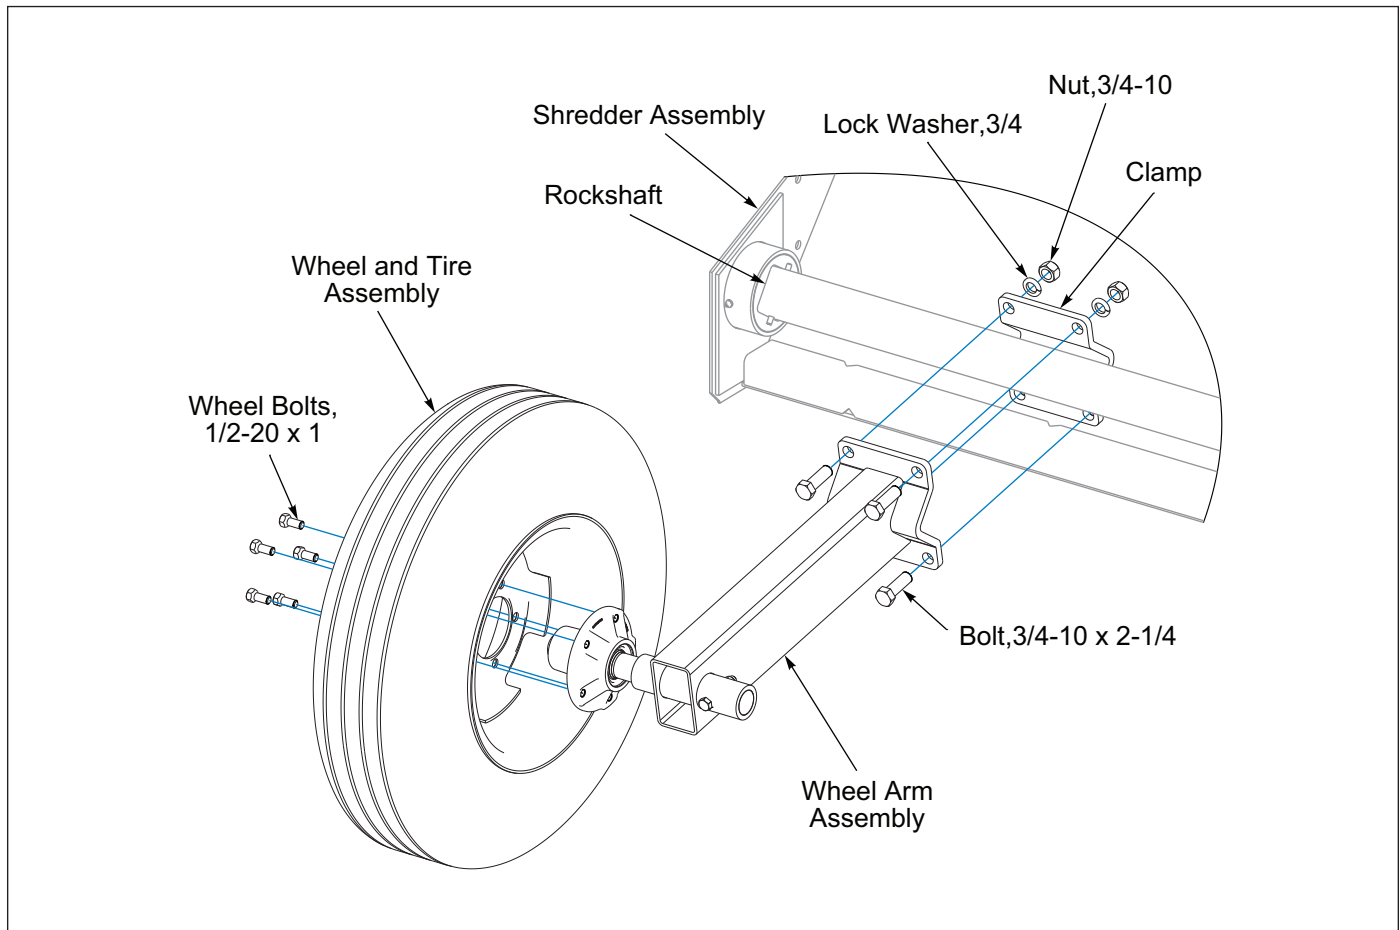
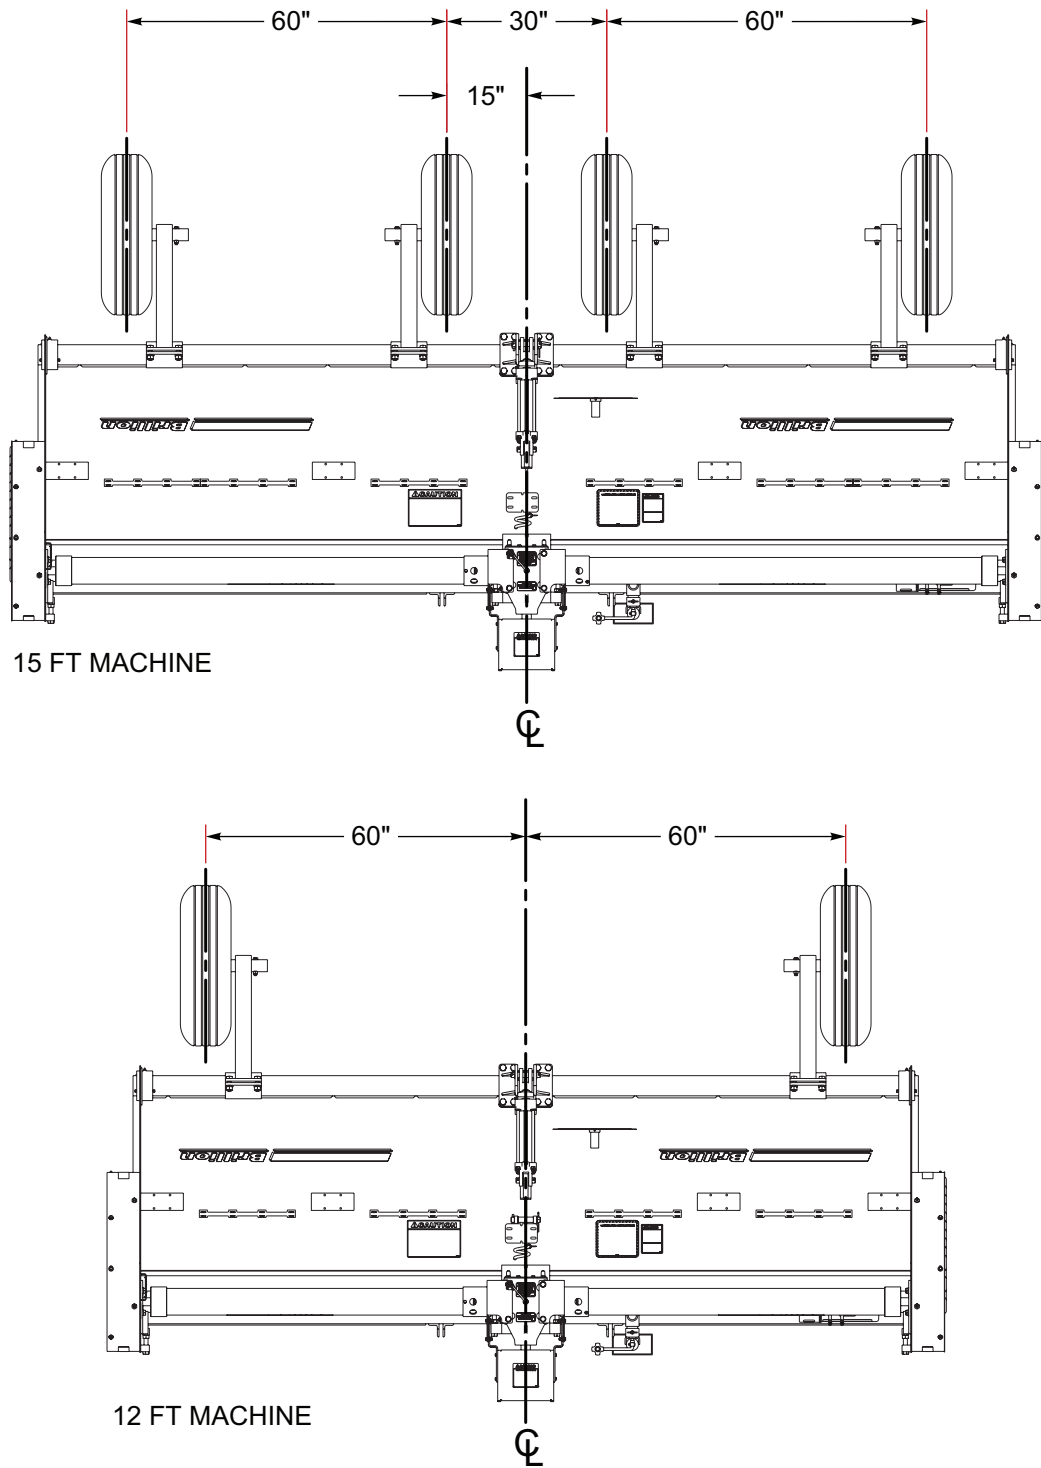

Figure 2-8: Wheel Arm Assembly
Figure 2-9: Wheel Arm Installation Dimensions
4. The distance between the Wheel Arms is adjustable on the square Rockshaft. **See Figure 2-9** for recommended positioning. Position and install Transport Wheel Arms onto square Rockshaft located at the rear of the Shredder with provided Clamp and Hardware. **See Figure 2-8.**